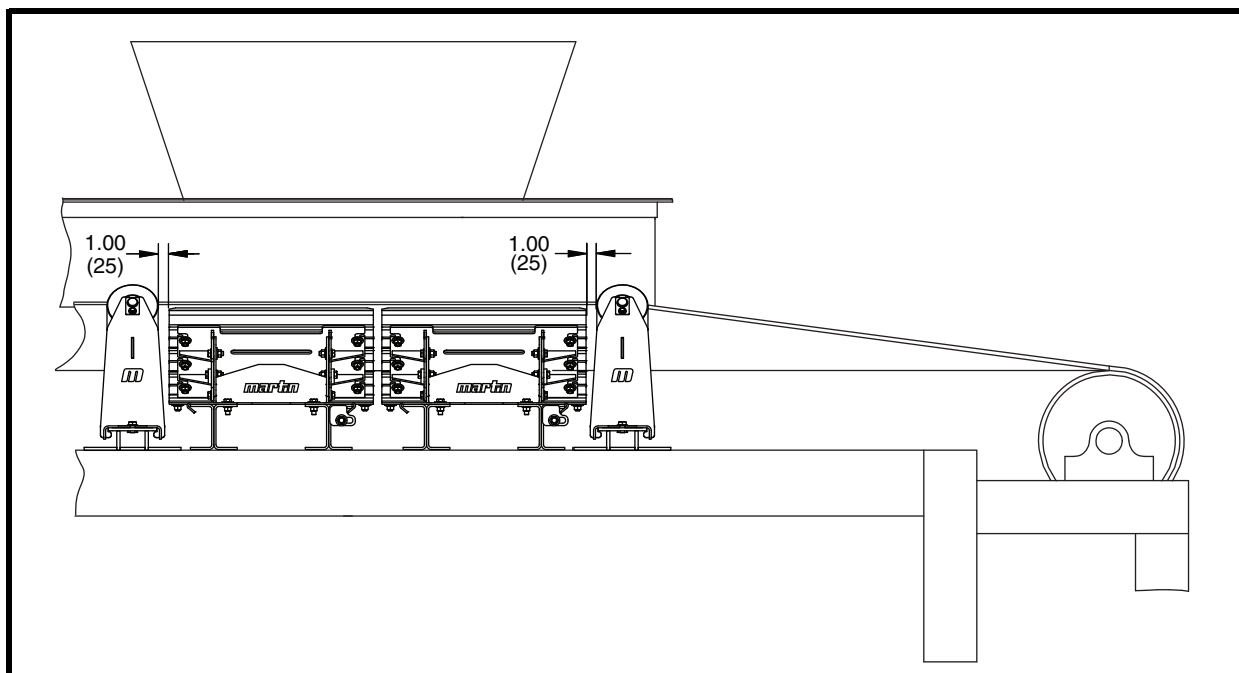

Figure 3. Installing Idlers with a Martin® Impact Cradle or Support Cradle
2. Install idlers as explained under *Installing Trac-Mount™ Idlers*, making sure roller is no more than 1 in. (25 mm) from either side of the impact or support cradle (see Figure 3).